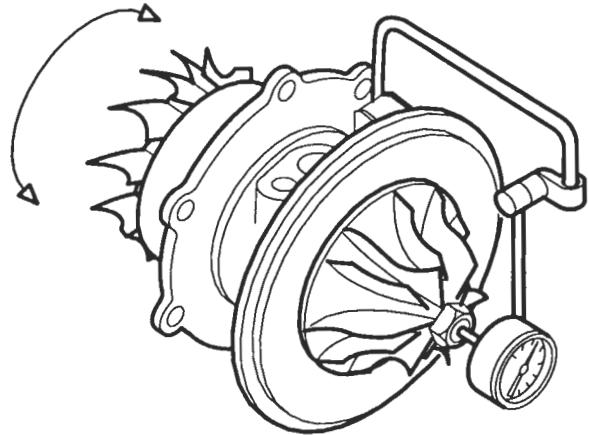

Figure 12. Checking Bearing Axial End Play
- a. Clamp the center housing assembly in a bench vise equipped with soft jaws (Figure 12.)